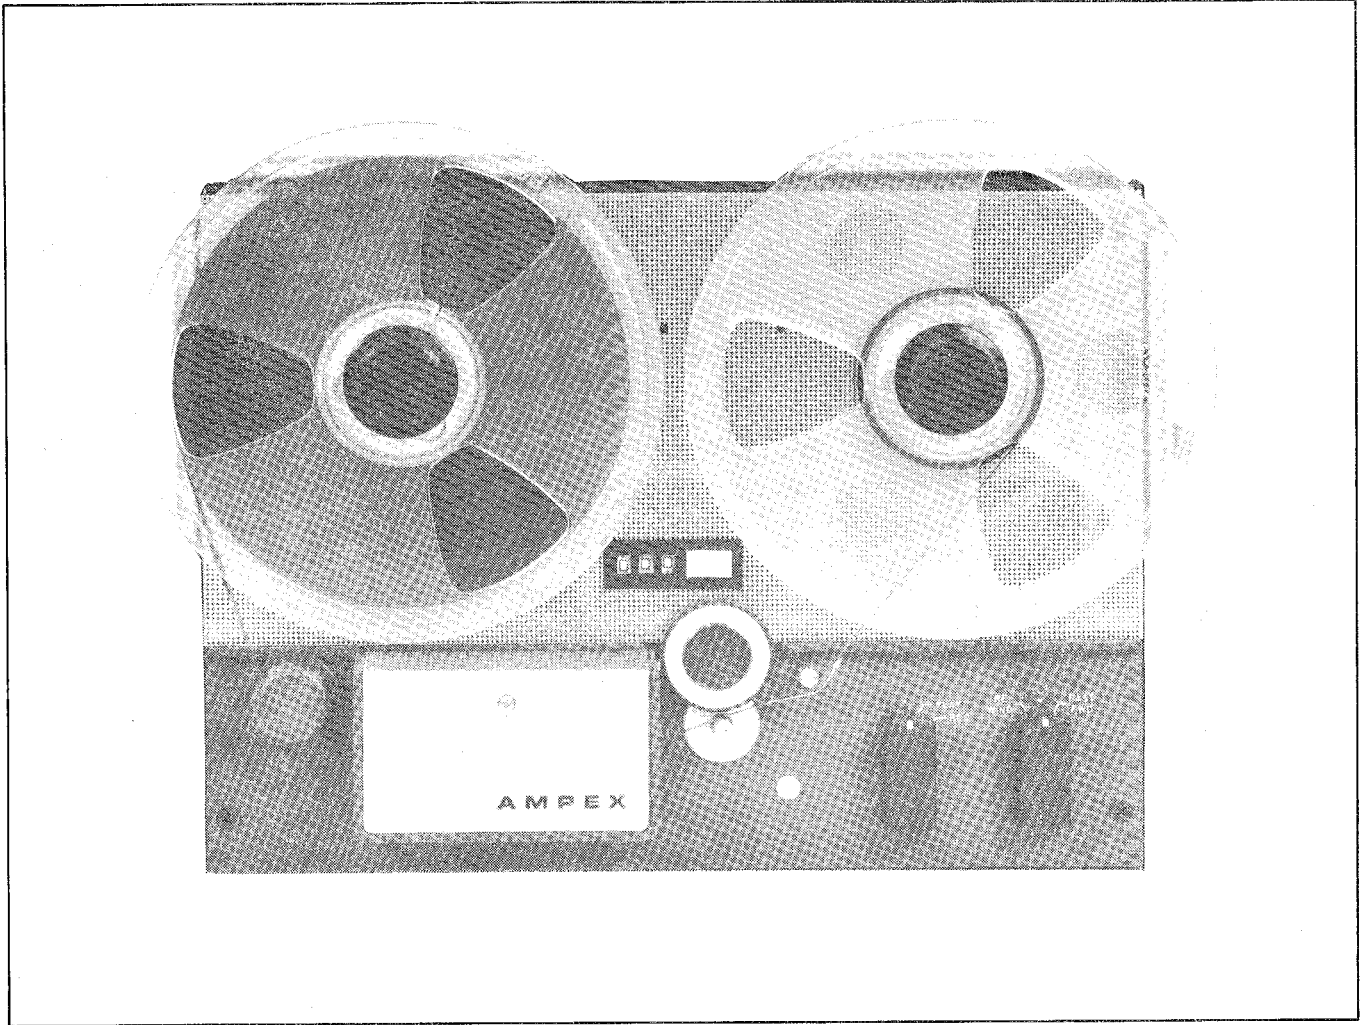

Figure 3-1. Transport Controls
3.3 Operating controls and indicators for the tape transport are shown in Figure 3-1 and described in Table 3-1.